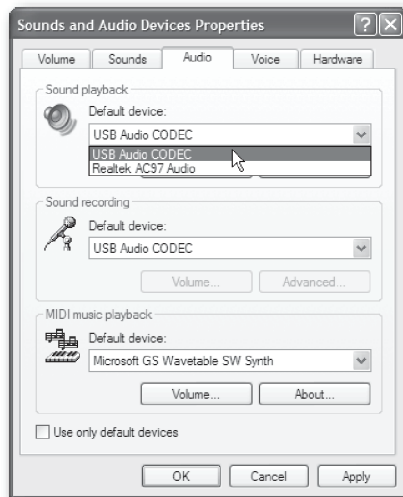

Figure 6
5. To use the M Series as your default input/output device (for system sounds and programs like Sound Recorder), ensure that it is set for playback and recording in the Audio tab (figure 6).